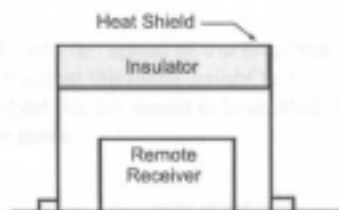

Figure 4
8. In order to prevent the Remote Receiver from overheating, put a Heat shield (option item) above the Remote Receiver. See Fig. 4.